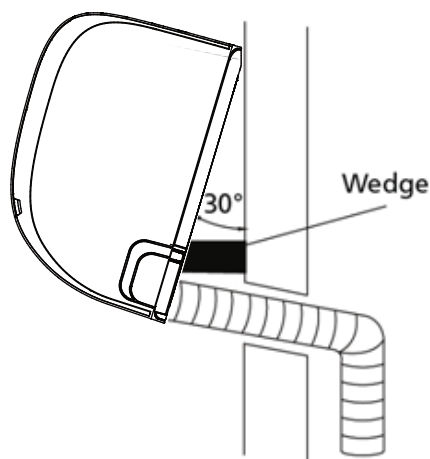

Fig. 3.11
2. Use a bracket or wedge to prop up the unit, giving you enough room to connect the refrigerant piping, signal cable, and drain hose. Refer to **Fig. 3.11** for an example.